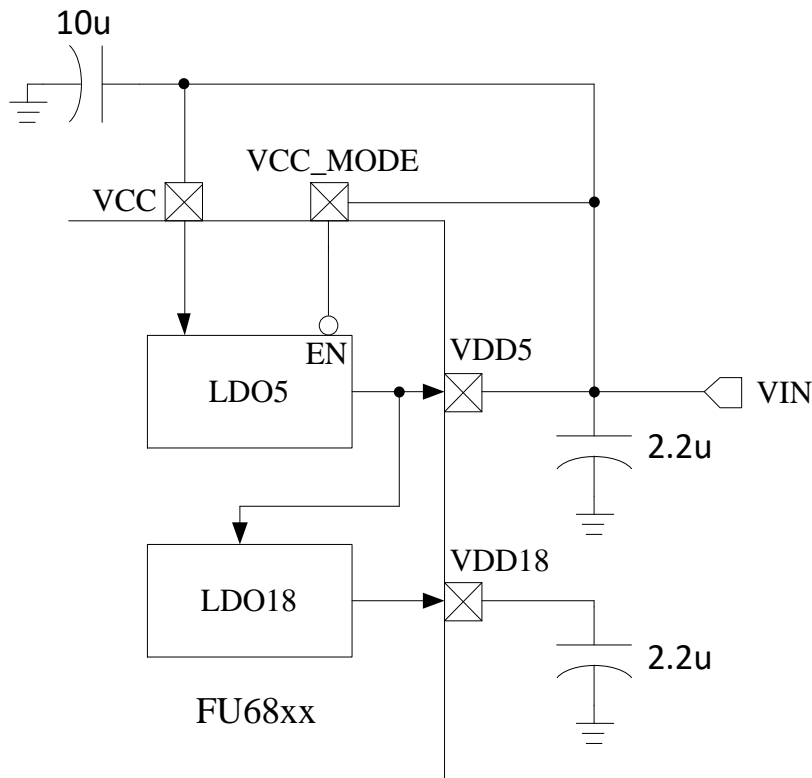

Figure 31-5 Low-voltage Single-power Supply Mode
- Low-voltage Single-power Supply Mode ($VCC_MODE = 1$): $VCC = VDD5 = 3 \sim 5.5V$. See Figure 31-5 for details.